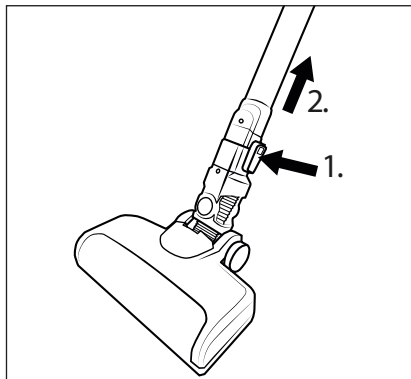

Fig. 12
- ◆ To remove the floor brush **22** from the suction pipe **24**, hold down the floor brush release button **23** and pull the suction pipe **24** off the floor brush **22** (see Fig. 12).